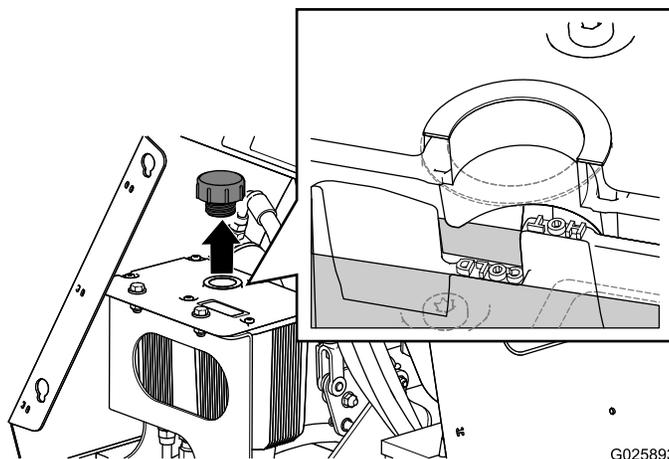

Figure 54
5. Clean area around hydraulic reservoir cap (Figure 54).
6. Remove the cap and check hydraulic oil level in the reservoir (Figure 54).
7. If necessary, add the specified hydraulic oil to the reservoir until the oil covers the **Cold** oil level on the baffle (Figure 54).
8. Replace hydraulic reservoir cap and tighten until snug (Figure 54).